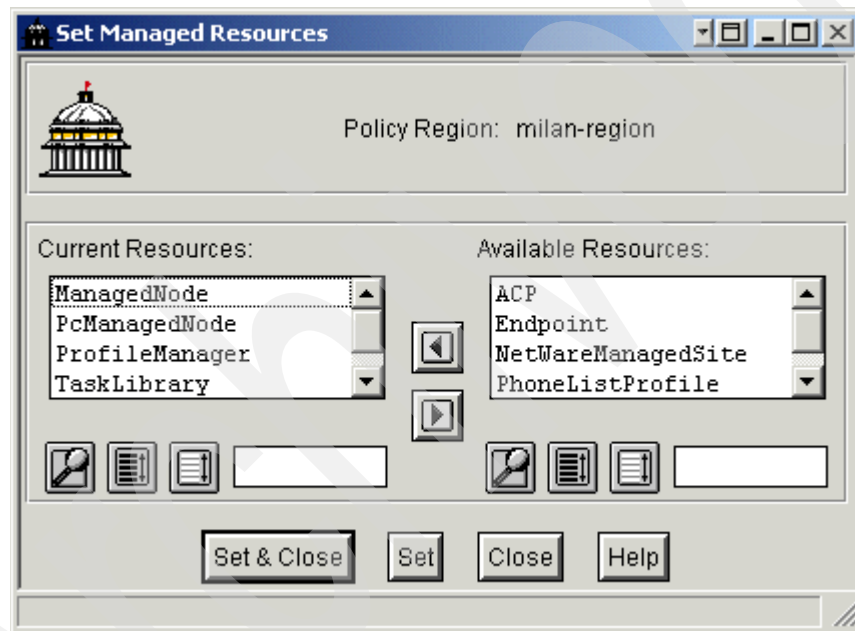

Figure 9-12 Set Managed Resources window
7. The Set Managed Resources window displays as shown in Figure 9-12.